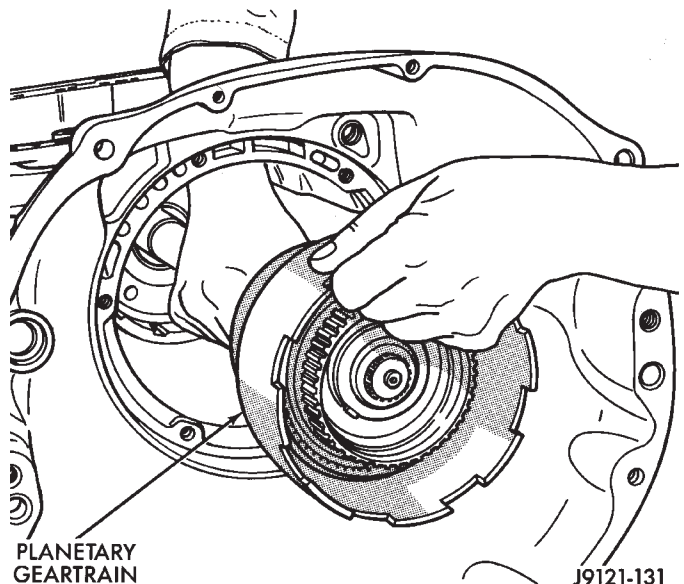

Fig. 134 Installing Output Shaft And Planetary Geartrain
(1) Lubricate output shaft, rear support bore and low-reverse drum hub with transmission fluid.
(2) Install assembled output shaft and planetary geartrain in case (Fig. 134).